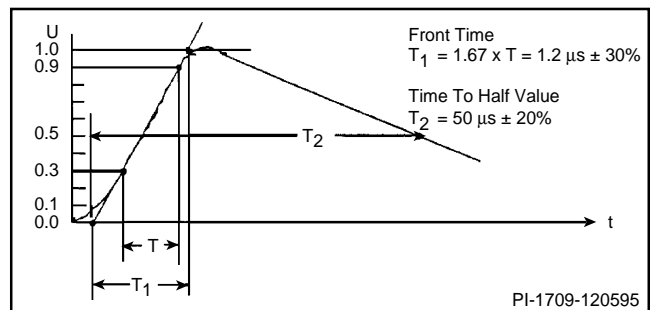

Figure 1. Waveshape of Open Circuit Voltage (1.2/50 μ S)
Figure 1 shows a typical surge voltage waveform specified by IEC 1000-4-5 (formerly IEC 801-4-5). Peak test voltages (U) of 3kV are common but in some applications higher peak voltages are specified. The surge voltage waveform has a 1.2 μ S front time T_1 and 50 μ S time to half value T_2 as shown.